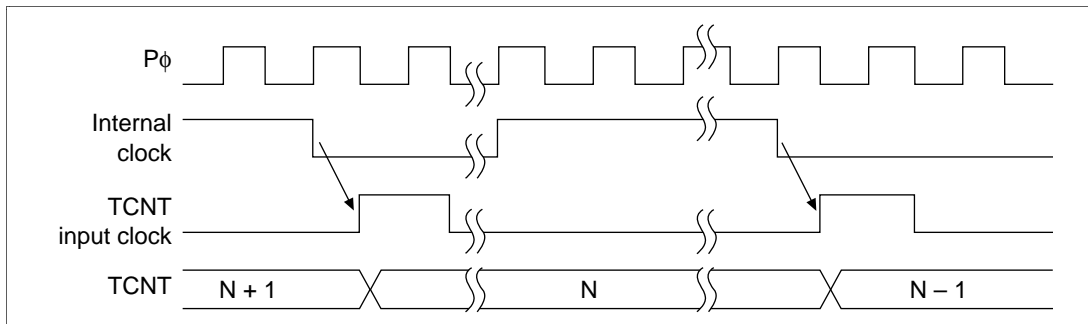

Figure 11.4 Count Timing when Internal Clock Is Operating
- **Internal Clock Operation:** Set the TPSC2–TPSC0 bits in TCR to select whether peripheral module clock $P\phi$ or one of the four internal clocks created by dividing it is used ($P\phi/4$, $P\phi/16$, $P\phi/64$, $P\phi/256$). Figure 11.4 shows the timing.